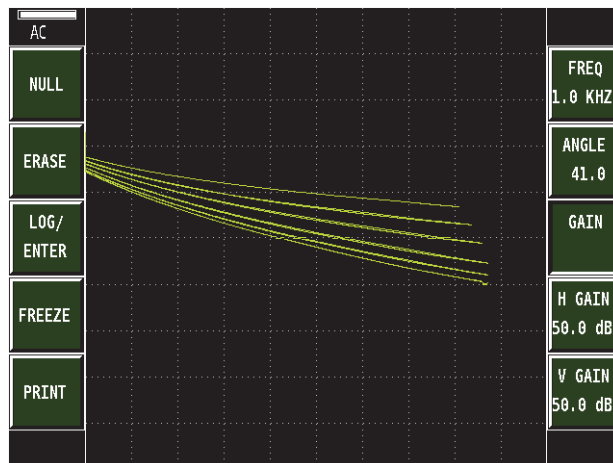

Figure 4-4 Thickness measurement
7. Place the probe at various locations representing different thicknesses. The display should look similar to Figure 4-4 on page 73.